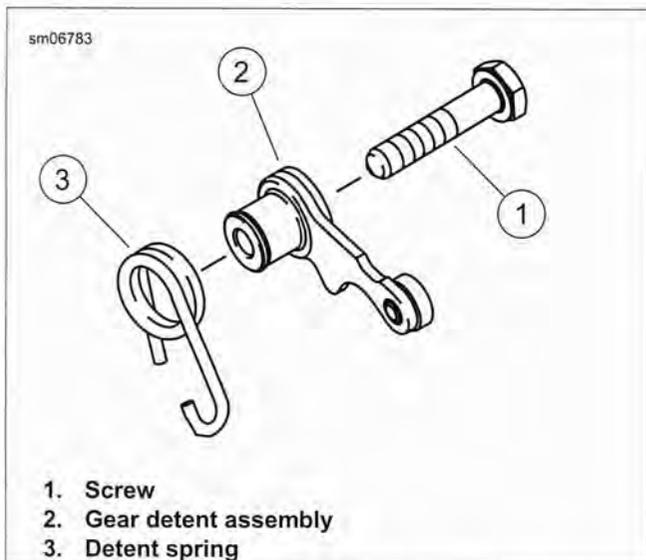

Figure 5-89. Gear Detent Assembly
1. See Figure 5-89. Assemble detent spring (3) onto gear detent assembly (2). Install detent assembly with spring into place in transmission cavity of right crankcase. Secure with screw (1). Tighten to 90-110 in-lbs (10.2-12.4 Nm).